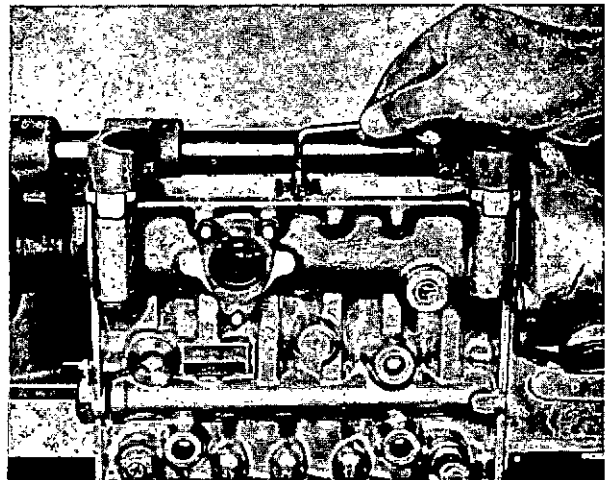

Fig. 4 Removing centre bearing.
6. Invert the pump and remove the camshaft centre bearing, which is retained by two socket screws (fig. 4).